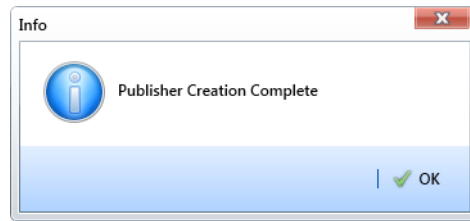

Figure 15-3. Publisher Creation Complete
- 5 Click  **OK** when the message *Publisher Creation Complete* displays (Figure 15-3).